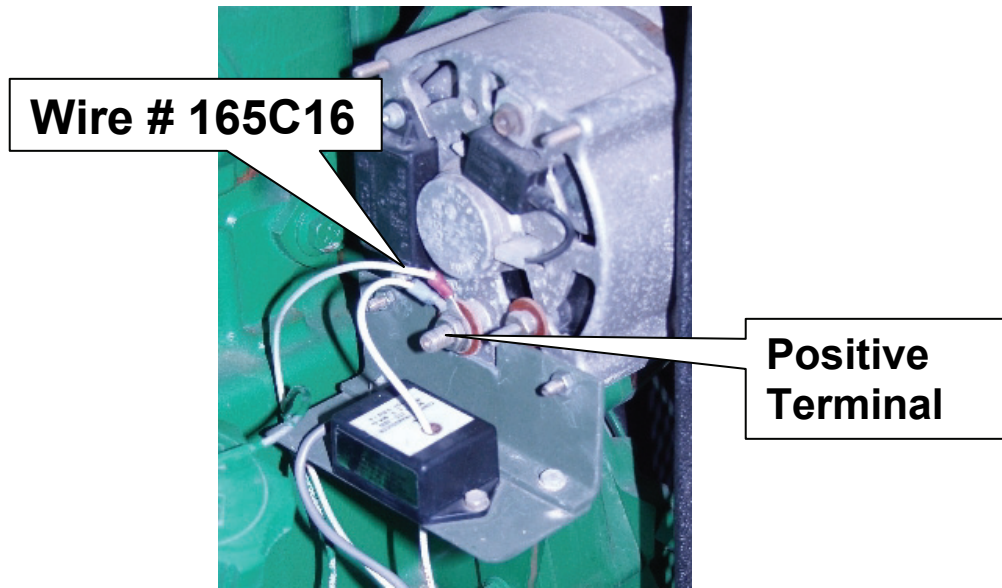

Figure 5 Control Power Hook-up
5. Connect wire # 165C16 to the positive terminal alternator as shown in figure 5.